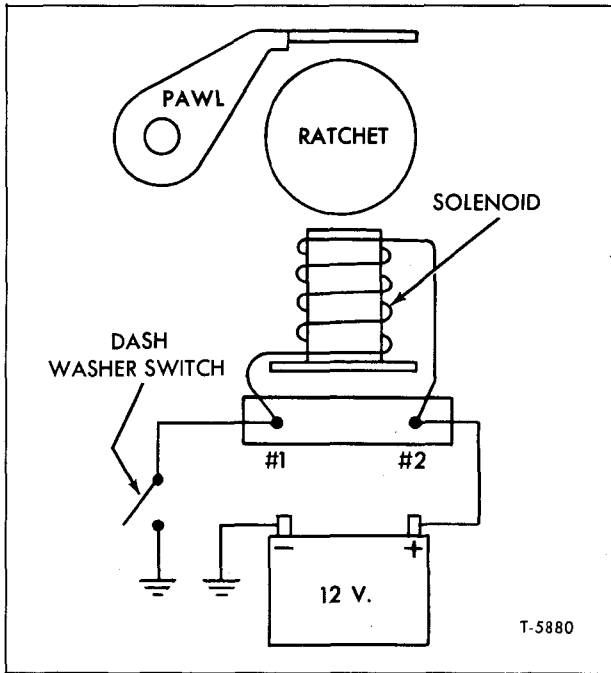

Figure 19—Checking Washer Solenoid
TROUBLESHOOTING WASHER PUMP (Refer to Fig. 19)
3. If all items in Step 2 check out, start wiper motor only, then push washer button and listen for "click" as washer solenoid pulls in. If no "click" is heard, check for 12 volts at terminal No. 2 (fig. 19). No voltage indicates defective wiring. If "click" is heard, proceed to Step 5.
4. If correct voltage was found in Step No. 3, connect a jumper wire from washer terminal No. 1 to ground (fig. 19) and operate wiper. If washer relay "click" is heard and pump functions correctly, a defective dash switch or an open circuit between washer pump and dash switch is indicated - "No Click" indicates an open pump solenoid.
2. Check relay coil as follows: Connect 12-volt supply to washer terminals (fig. 19). Observe if solenoid plunger pulls in. Failure of solenoid plunger to pull in indicates an open solenoid coil or poor solder connections.